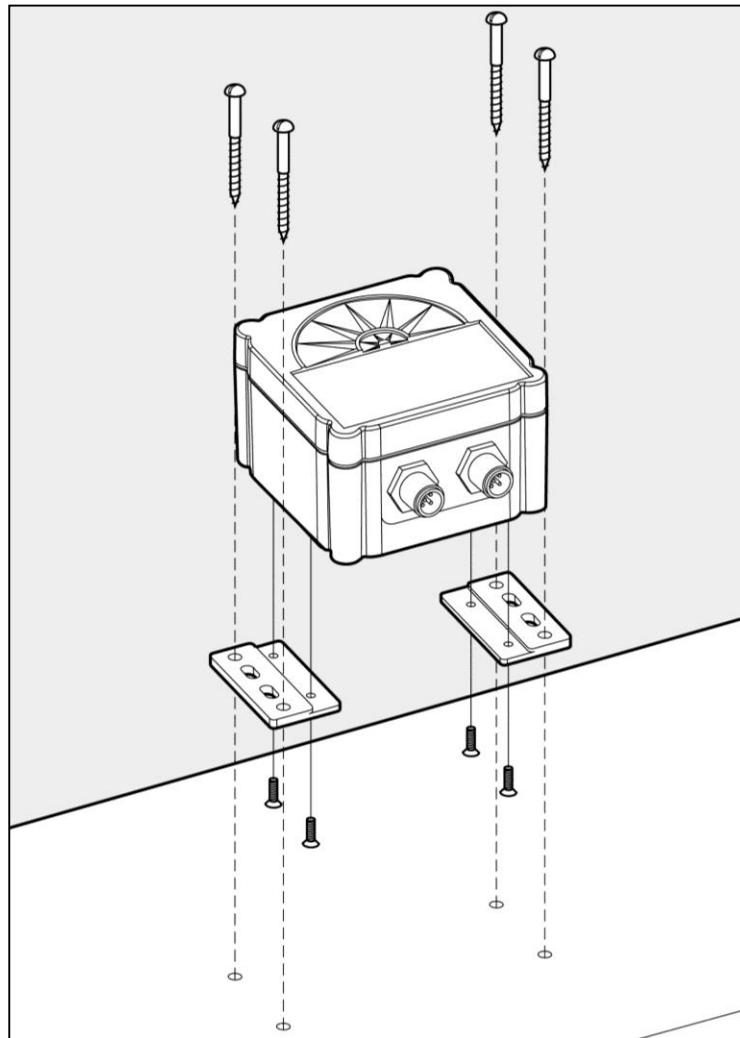

Figure 1 – Mounting the SSC300 to a Horizontal Surface
fasteners as shown in Figure 1. Do not use threadlocking compounds containing methacrylate ester, such as Loctite Red (271), as they will cause stress cracking of the plastic enclosure.